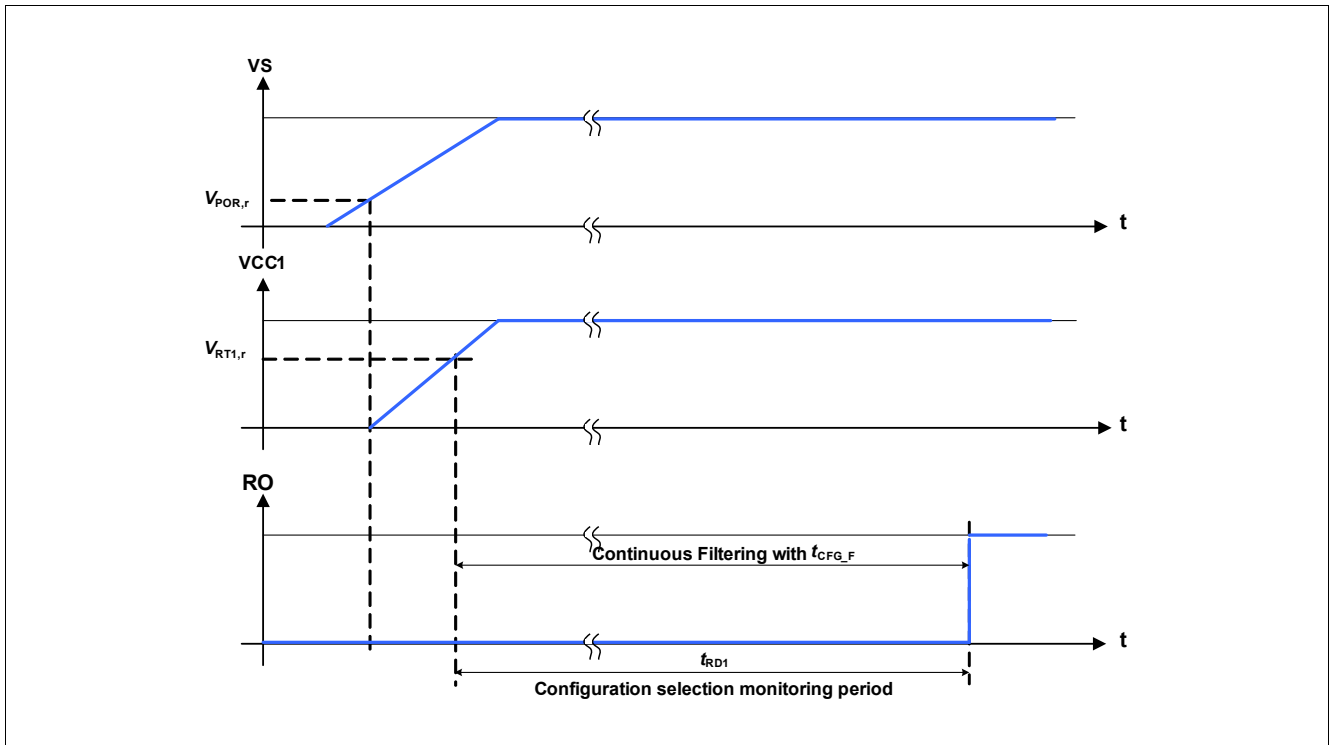

Figure 4 Hardware Configuration Selection Timing Diagram
**Figure 4** shows the timing diagram of the hardware configuration selection. The hardware configuration is defined during SBC Init Mode. The INTN pin is internally pulled Low with a weak pull-down resistor during the reset delay time  $t_{RD1}$ , i.e. after VCC1 crosses the reset threshold VRT1 and before the RSTN pin goes High. The INTN pin is monitored during this time (with a continuous filter time of  $t_{CFG,F}$ ) and the configuration (depending on the voltage level at INTN) is stored at the rising edge of RSTN.